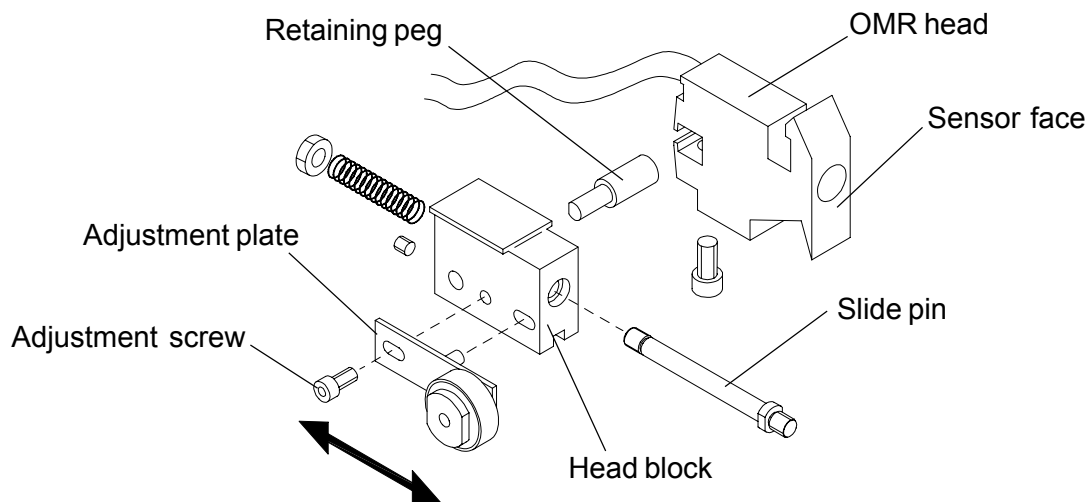

Fig. 19
When an OMR head is fitted, it can be attached anywhere across the width of the machine to suit the stationery being processed. Its position can later be changed if required, as described later in this section. The head is mounted on a spring-loaded block which is adjustable to provide the correct gap between the head sensor and the rubber roller. Additionally, the head must be correctly aligned widthways to ensure that the centre of the OMR sensor is in line with the centre of the marks on the paper. The assembly as shown in Fig. 19 below attaches to a special roller carrier which replaces one of the standard carriers on the machine.
2. Referring to Fig. 19 below, slide a piece of 80gsm (20lbs bond) paper between the sensor face of the OMR head and the rubber roller - the paper must **not** be under the roller on the adjustment plate. Slacken the adjustment screw to allow the head block to move in and out against spring pressure. Ensuring that the paper is a sliding fit between the sensor face and the rubber roller, and that the roller of the adjustment plate is contacting the rubber roller, tighten the screw. Carefully check the setting to ensure that the paper is still a sliding fit, or slightly tight. **Note:** due to a certain amount of backlash in the moving parts, using a single sheet of paper is likely to result in too small a gap, or no gap at all. It may be found when setting that using 2, or even 3 sheets of paper will result in a correct final gap.
To move the OMR head to the other side of the carrier, refer to Fig. 19. Slacken the screw under the OMR head and slide it off the retaining peg. Slacken the grub screw in the end of the sliding head block and remove the retaining peg. Move the peg to the other side of the block and reassemble all parts in reverse order, ensuring that the edge of the OMR head is located firmly under the flange of the head block. Adjust the gap and position as previously described.
The inner fingers should always be set inboard as far as possible. If narrow envelopes are being used such that the envelope width would be inboard of the outer fingers, these are left in place but ignored. Instead, the inner fingers should be swapped over, as shown in Fig. 19, and adjusted as described above for the outer fingers.